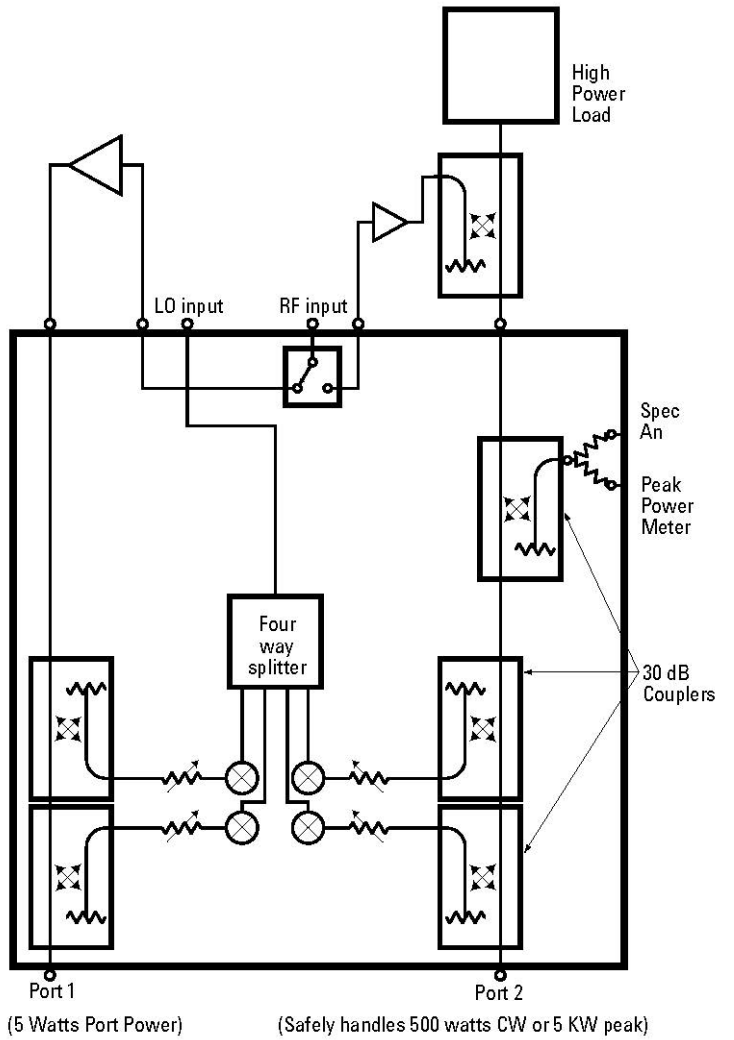

Figure 15. Block diagram for special high-power test set configuration for the 85110
Special 8510 test set configurations for high-power testing are available on a request basis. An example of a special 85110 configuration is shown in Figure 15. This modified RF block diagram allows up to 500 watts (CW) of high-power handling capability and also provides the ability to connect additional test equipment to the AUT via a single RF connection.